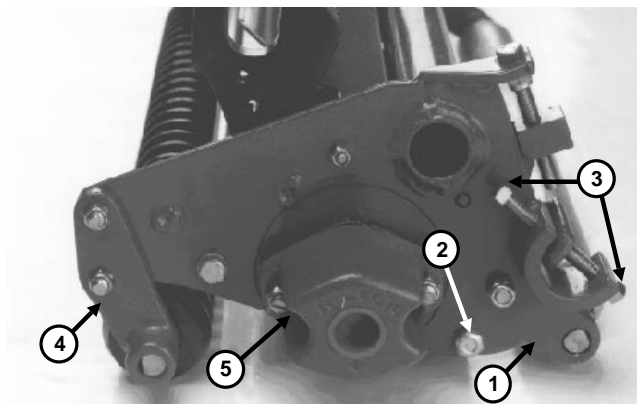

Figure 25
1. Remove locknut securing rear roller height of cut bracket to side plate on both ends of cutting unit (Fig. 25).